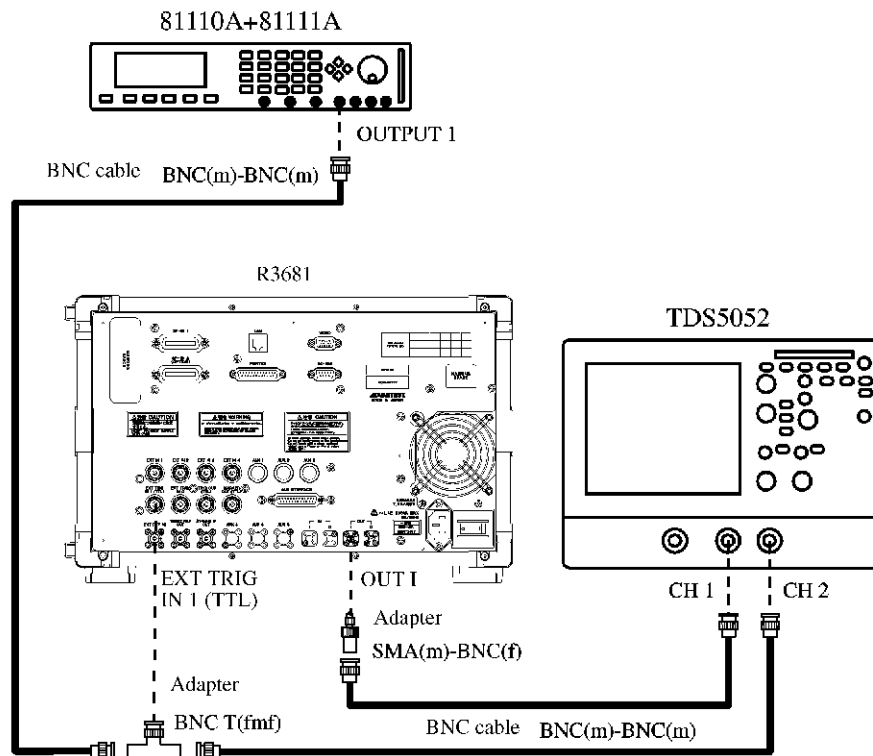

Figure 8-9 External Start Trigger Verification Connection Diagram
2. Connect the instruments as shown in Figure 8-9.